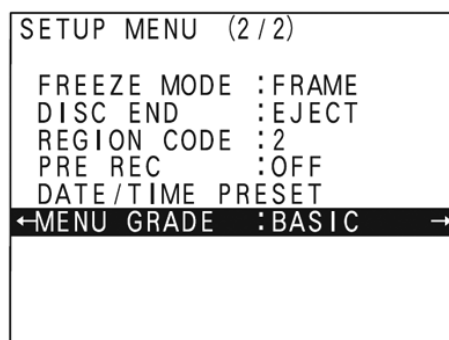

Figure 3-81 "Setup Menu" - [MENU GRADE] highlighted
- 5.) Press the  $\rightarrow$  (right) button. The "Setup Menu" appears, see Figure 3-81 on page 3-66.